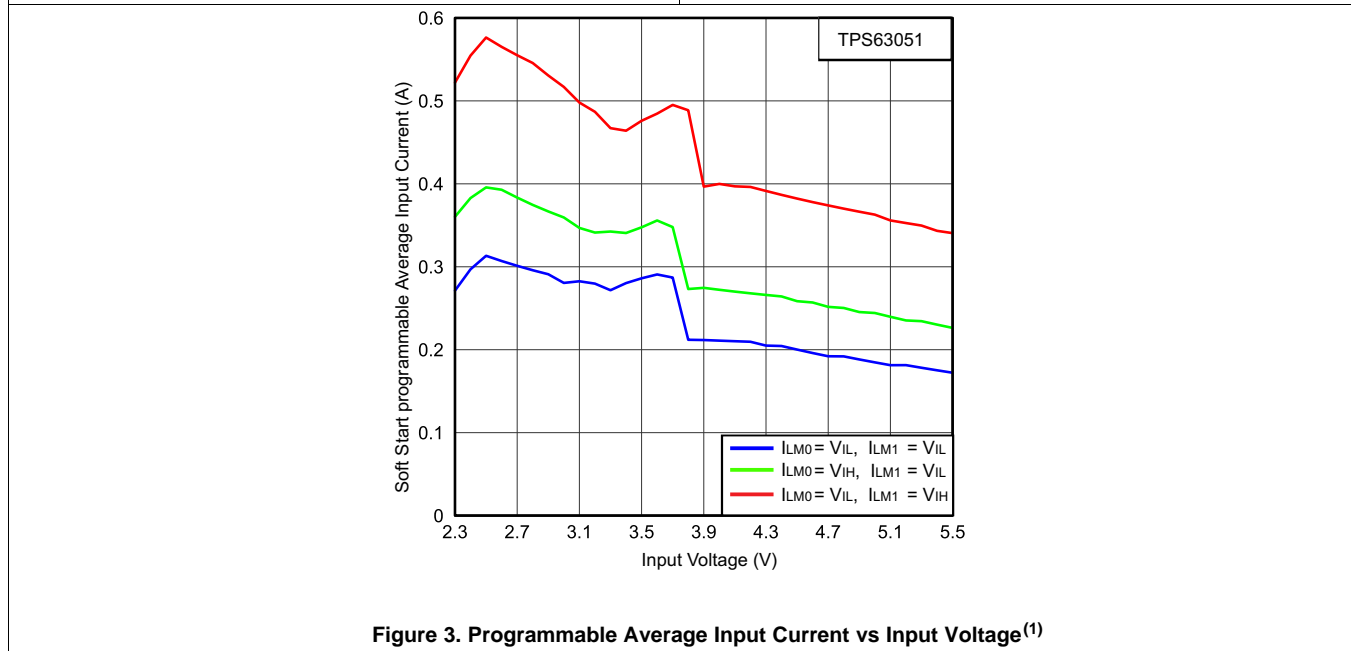

Figure 3. Programmable Average Input Current vs Input Voltage(1)
(4) For variation of this parameter with Input voltage see Figure 3.
(1) For variation of this parameter with Input voltage see Figure 3.
To minimize inrush current and output voltage overshoot during start up, the device has a soft start. At turn on, the input current raises monotonically until the output voltage reaches regulation. The TPS6305x devices charge the soft start capacitor, at the SS pin, with a constant current of typically 1  $\mu$ A. The input current follows the current used to charge the capacitor at the SS pin. The soft start operation is completed once the voltage at the SS pin has reached typically 1.3 V. Figure 3 shows the value of the soft start capacitor in respect to the soft-start time.
The soft-start time in Figure 3 is referred to typical application with 10- $\mu$ F effective output capacitance.